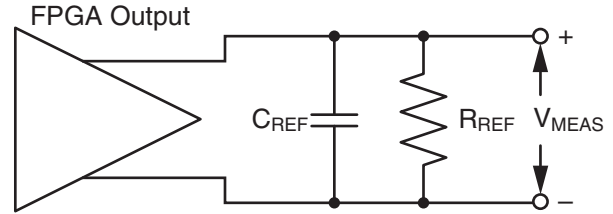
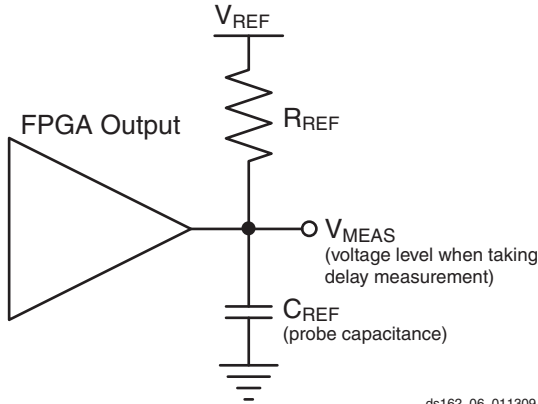

Figure 5: Differential Test Setup
Figure 4: Single-Ended Test Setup
4. This is an input voltage reference that bears no relation to the  $V_{REF} / V_{MEAS}$  parameters found in IBIS models and/or noted in Figure 4.
Output delays are measured using a Tektronix P6245 TDS500/600 probe (< 1 pF) across approximately 4" of FR4 microstrip trace. Standard termination was used for all testing. The propagation delay of the 4" trace is characterized separately and subtracted from the final measurement, and is therefore not included in the generalized test setups shown in Figure 4 and Figure 5.